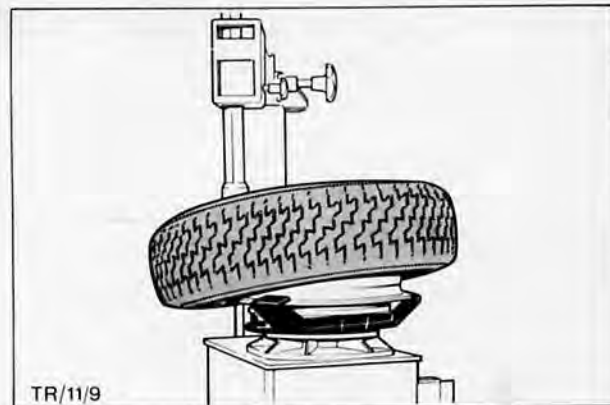

Fig. 9. Wheel in position on equipment showing rim clamps
5. Place new wheel on equipment, Fig. 9, and ensure wheel clamps are fitted to wheel.